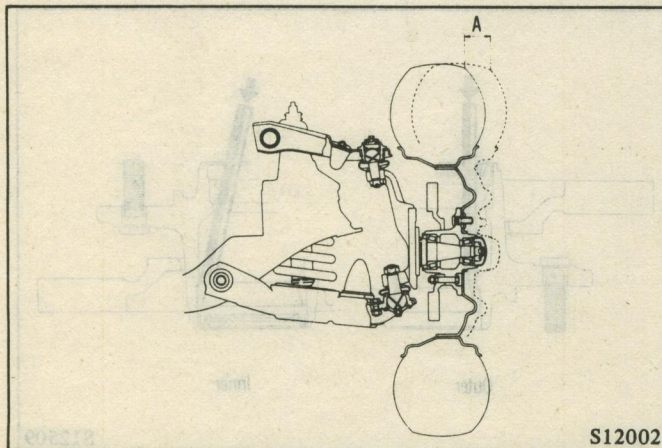

Fig. 10 Checking for Overall Play (1)
(1) In unladen condition, move tire to measure movement of top of tire (overall play of upper ball joint and pivot busing). (Fig. 10)